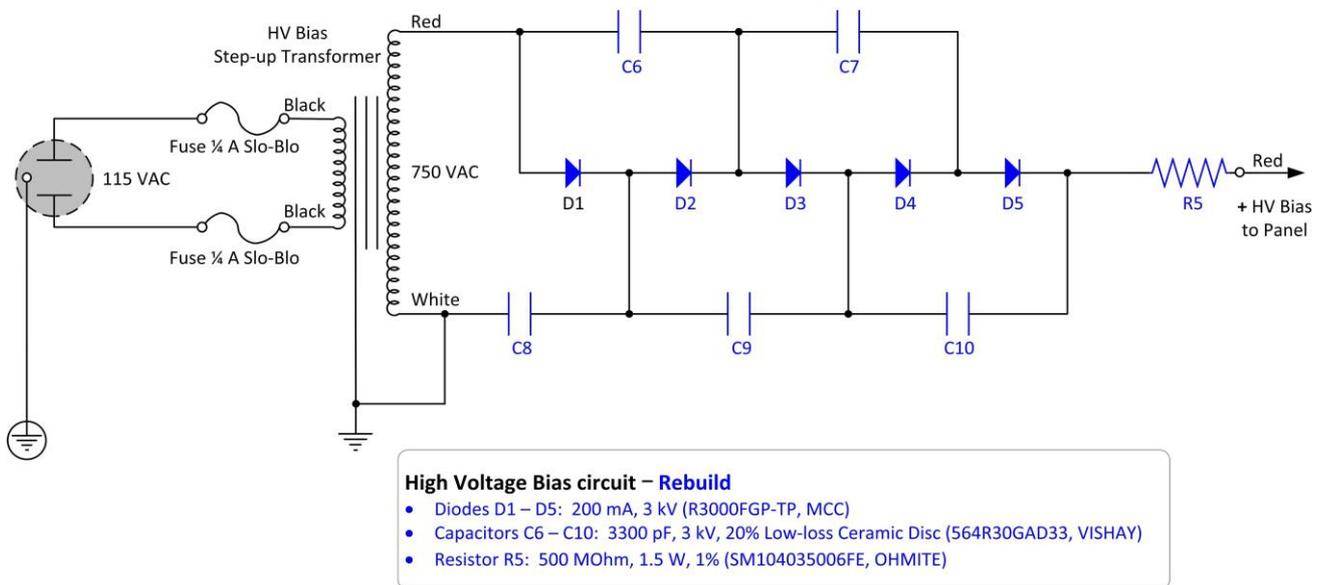

Figure 6. Step 1, high-voltage ladder components replaced during rebuild (replaced components coloured in blue).
- Original diodes D1 - D5 and capacitors C6 – C10 on both boards were tested out of circuit and although nothing untoward was found using a low-voltage DVM, these parts were replaced with equivalent or better rated components (Fig. 6).